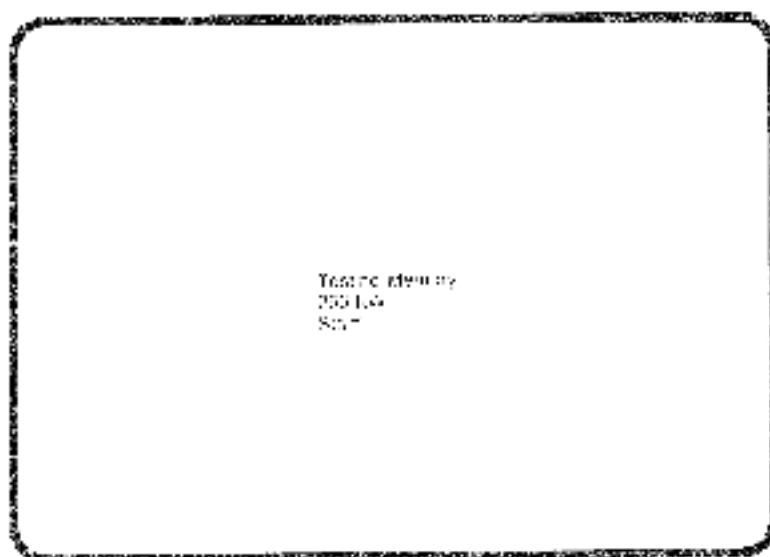

Figure 1-4 KDP11-BA Startup Message
- The KDP11-BA CPU powers up in Onal Debugging Technique (ODT) and displays a very abbreviated message (Figure 1-4).